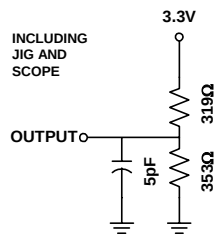

FIGURE 1B
5. Transition is measured $\pm 500mV$ from steady state with $CL=5pF$ as shown in Figure 1B. The parameter is guaranteed but not 100% tested.
10. Transition is measured 500mV from steady state with $C_L = 5pF$ as shown in Figure 1B. The parameter is guaranteed but not 100% tested.